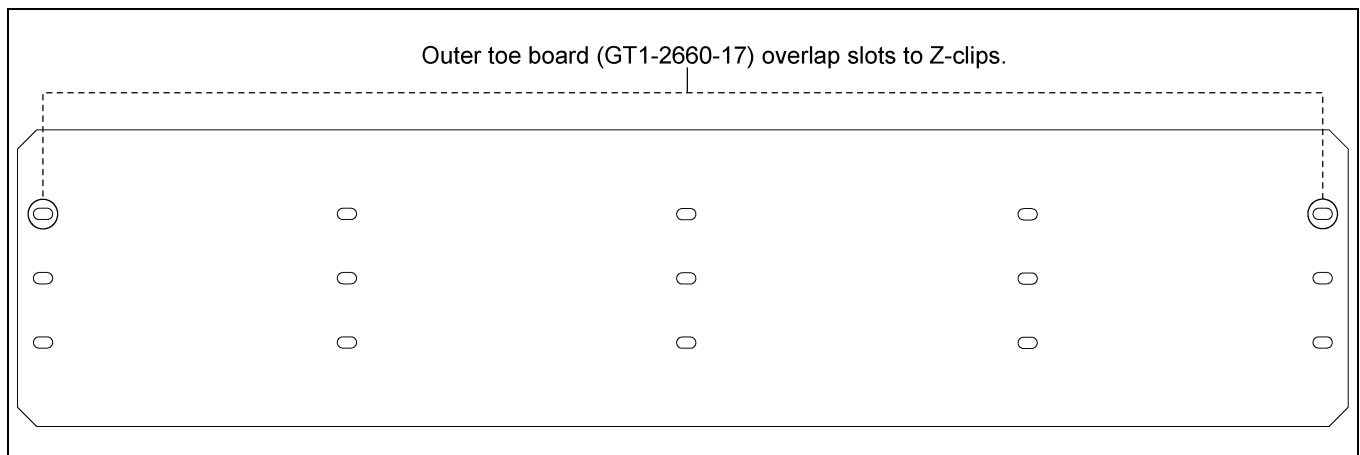

Figure 5E 17' Outer Toe Board (GT1-2660-17)
2. Outer toe board is arranged with overlap slots on each side. Install 17' outer toe boards (GT1-2660-17) to corresponding slots as shown in Figure 5E.